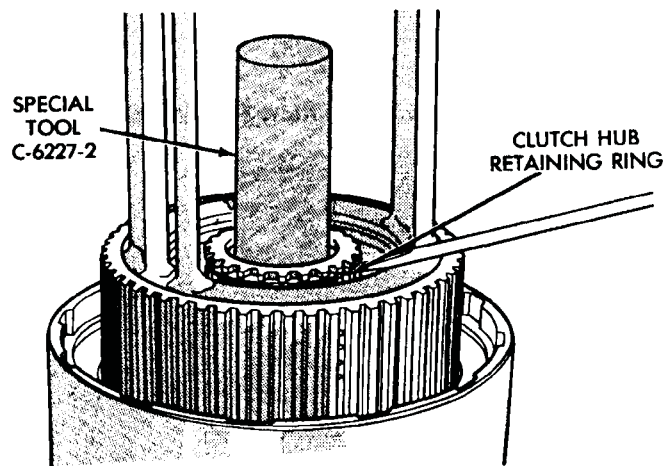

Fig. 63 Clutch Hub Retaining Ring Installation
(29) Install clutch hub retaining ring (Fig. 63). **Be very sure retaining ring is fully seated in sun gear ring groove.**
(30) Slowly release press ram, remove compressor tools and remove geartrain assembly.